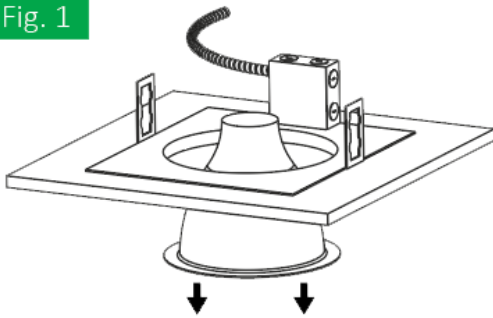

Fig. 2
3. Attach the carabiner safety clip to the existing fixture housing. (Fig. 2)